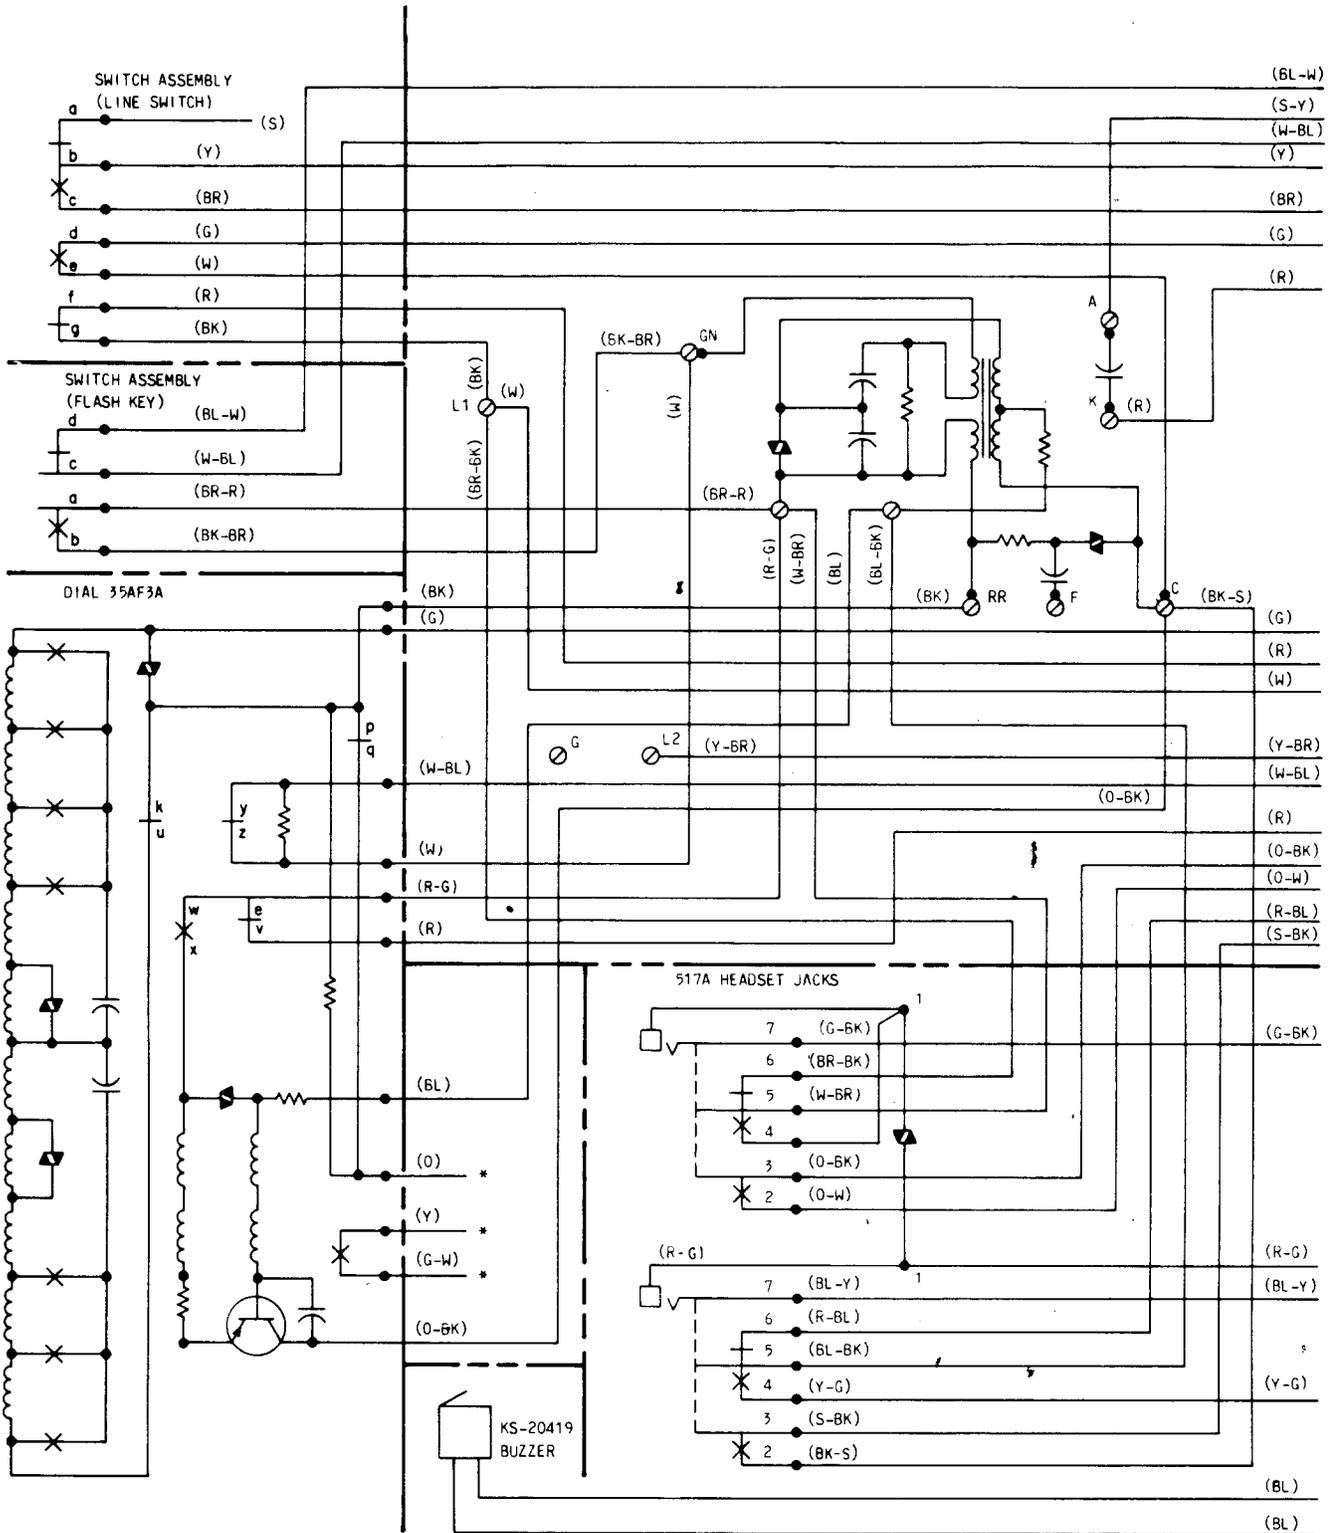

Fig. 1—2636CA (MD), CAM (MD) and 2637DA (MD), DAM (MD) Telephone Set, Connections (Sheet 1 of 2) (Note)
1.01 This section contains information on 2636CA (MD), 2636CAM (MD), or 2636CAMS1 (18-button) and 2637DA (MD), 2637DAM (MD), or 2637DAMS1 (30-button) CALL DIRECTOR® telephone sets equipped with headset jacks (Fig. 1 and 2).
- Change 241B amplifier connections, Fig. 1 and 2.